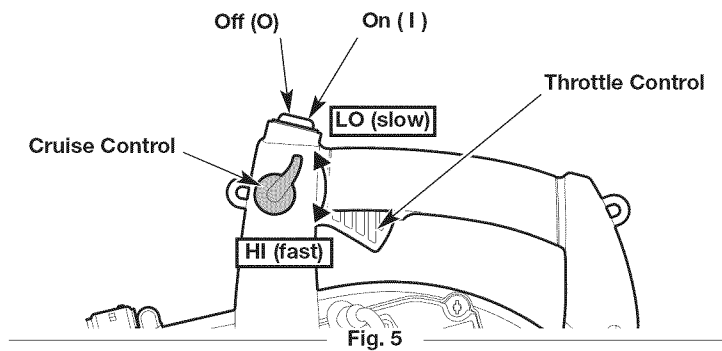

Fig. 5
**NOTE:** There is no need to turn the unit on. The On/Off switch is in the ON (I) position at all times (Fig. 5).
4. Move the cruise control to the **LO (slow)** position (Fig. 5).
**NOTE:** Keep the cruise control in the **LO (slow)** position and **DO NOT** squeeze the throttle control until step 9 (Fig. 5).
8. **DO NOT** squeeze the throttle control. Idle the engine for 5 to 10 seconds. If the unit stops during this time: Squeeze and hold the throttle control or move the cruise control to the **HI (fast)** position (Fig. 5). Pull the starter rope with a controlled and steady motion until the unit starts.
9. Squeeze and hold the throttle control or move the cruise control to the **HI (fast)** position (Fig. 5). Allow the engine to warm up for 30 to 60 seconds.
2. Press and hold the On/Off switch in the **OFF (O)** position until the engine comes to a complete stop (Fig. 5).
- Use the cruise control to make continuous operation easier (Fig. 5).